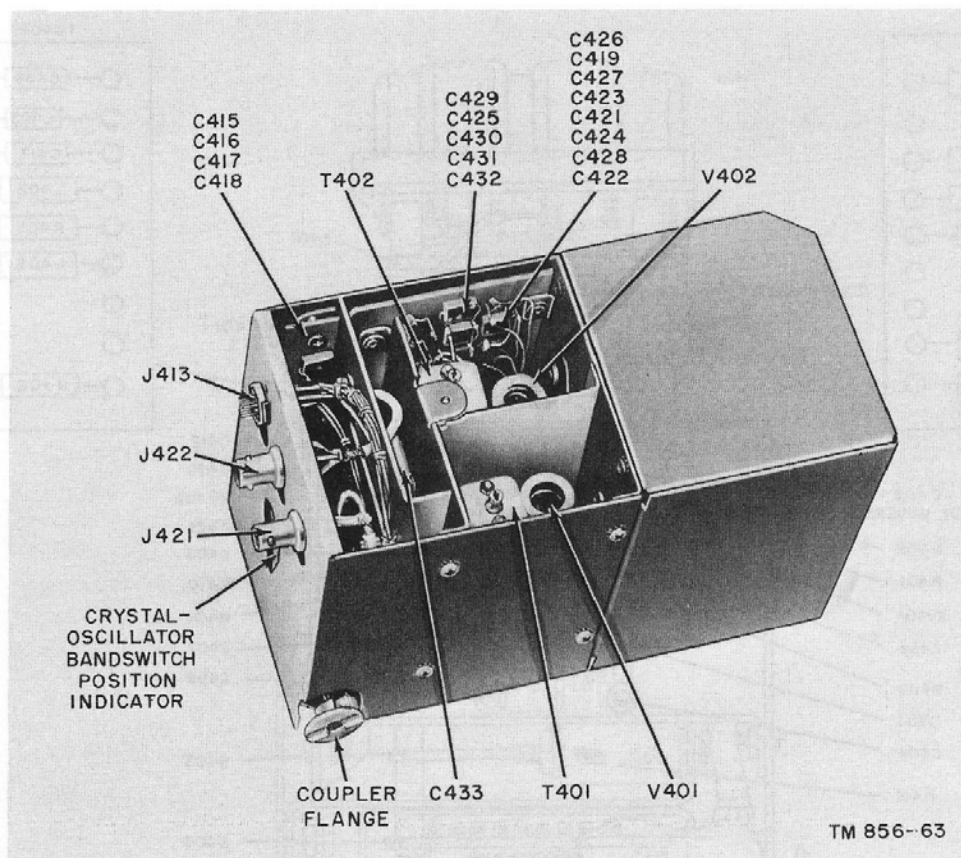

Figure 65. Crystal-oscillator subchassis, top view.
f. Pins 6 and 7 of V203 (Grid and Cathode of First Mixer). Apply a 2-mc modulated signal to test point E208 (fig. 62). If no signal is audible, apply a strong, 8-mc unmodulated signal to terminal 7 of V203 while the antenna input is connected to an antenna or to a 2-mc signal source. Then, if static or signal is audible, a faulty first crystal oscillator is indicated. Turn the FUNCTION switch to STAND BY and check for injection voltage from the first crystal oscillator at test point E208; if a reading of between -3 and -11 volts dc is obtained, injection voltage is available from the first crystal oscillator. Disconnect P221 from J421 (fig. 86) and measure the ac voltage at the contact of J421. The output from the first crystal oscillator is normal if a reading of approximately 2 to 3 volts ac is obtained. If the output is abnormal, check tube V401 (fig. 65), the tube socket voltages (fig. 82), the alinement of the oscillator circuits and the oscillator crystals (par. 100). Check synchronization of crystal oscillator (par. 110). However, if the set is still dead, or if the output is weak, check first mixer tube V203 and its tube socket voltages (fig. 82).